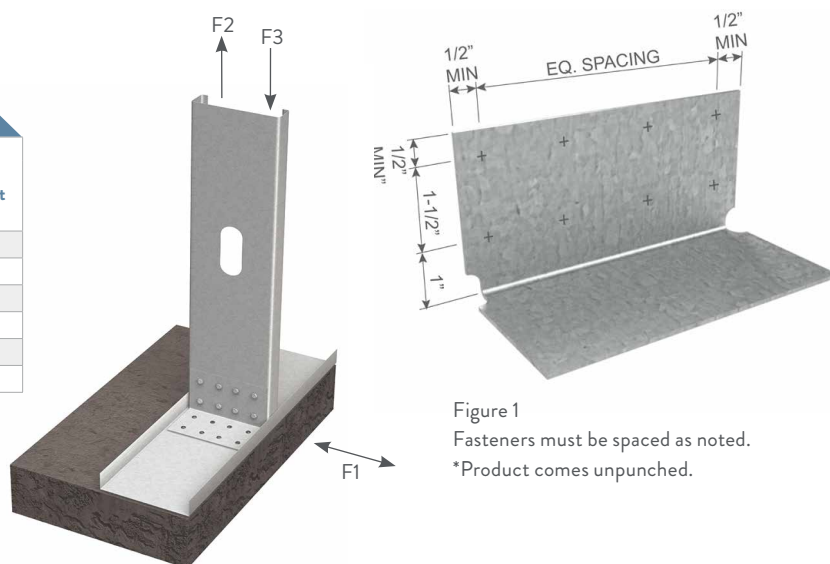

Figure 1
- Screws shall be attached in a symmetric manner starting at the top and bottom moving to the center, see Figure 1 opposite page.